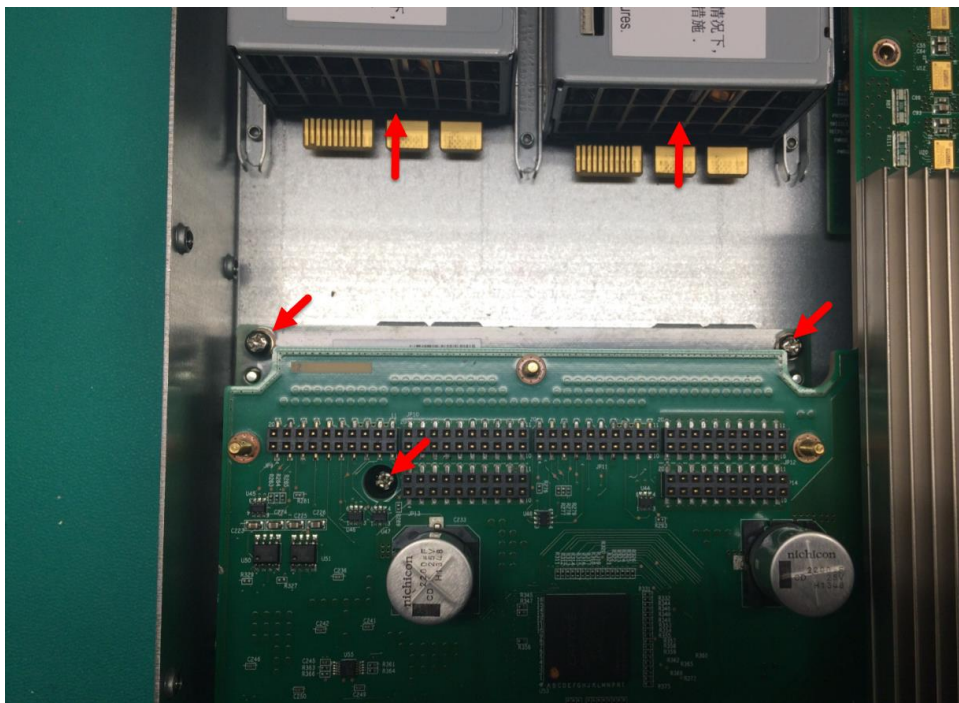

Figure 3-4: Main board removal
6. Remove the Main board by removing all screws as shown in Figure 3-4.